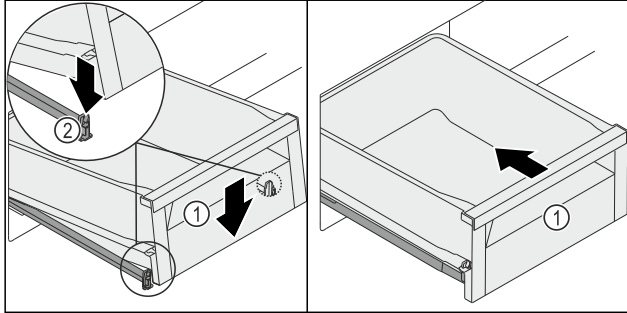

Fig. 126
- ▶ Lower the front of the drawer *Fig. 126 (1)* so that the drawer slides into the clamp *Fig. 126 (2)* on the left and right.
- ▶ The drawer *Fig. 126 (1)* latches in audibly.
- ▶ Push in the drawer *Fig. 126 (1)*.